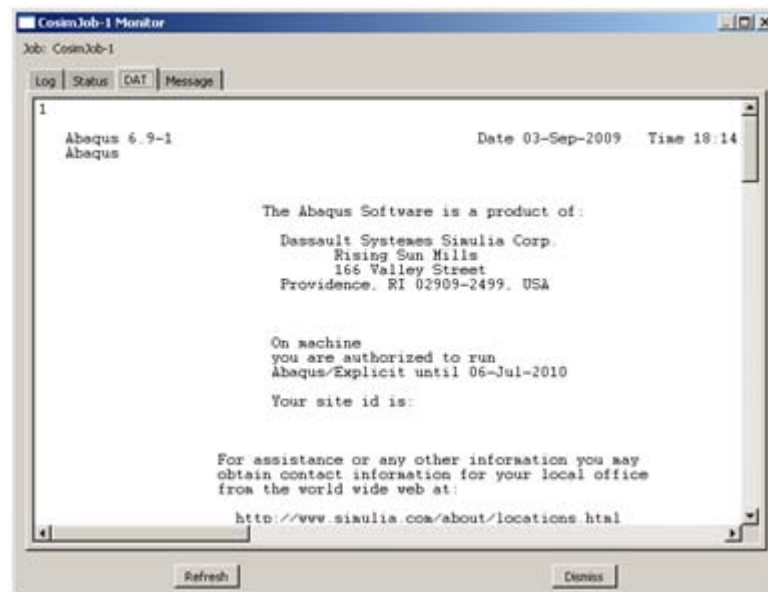

Figure 3-10: Co-simulation Job Monitor dialog box
- **Monitor:** This button is valid for data check and full analyses and is activated when the job has been submitted. Clicking this button opens a dialog box (Figure 3-10) that allows you to monitor the job. The **Monitor** dialog posts the contents of the log (.log), status (.sta), data (.dat) and message (.msg) files of the Abaqus analysis during the co-simulation. Click the **Refresh** button to upload the current file contents in the dialog.